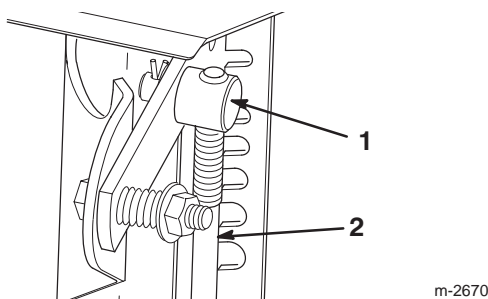

Figure 7
3. Rotate the speed selector rod in the trunnion (Fig. 7) until the bottom end of the rod can slip into the hole in the speed selector arm (Fig. 6).